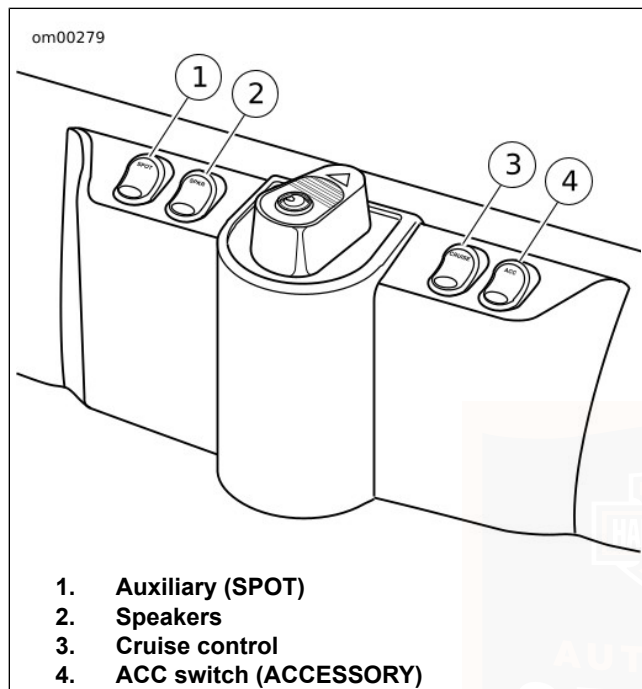

Figure 19. Switch Indicators
See Figure 19. An accessory switch (4) is located on the right side of the fairing.
See Figure 19. Use the auxiliary lamp switch (1) to turn ON the auxiliary lamps as required.